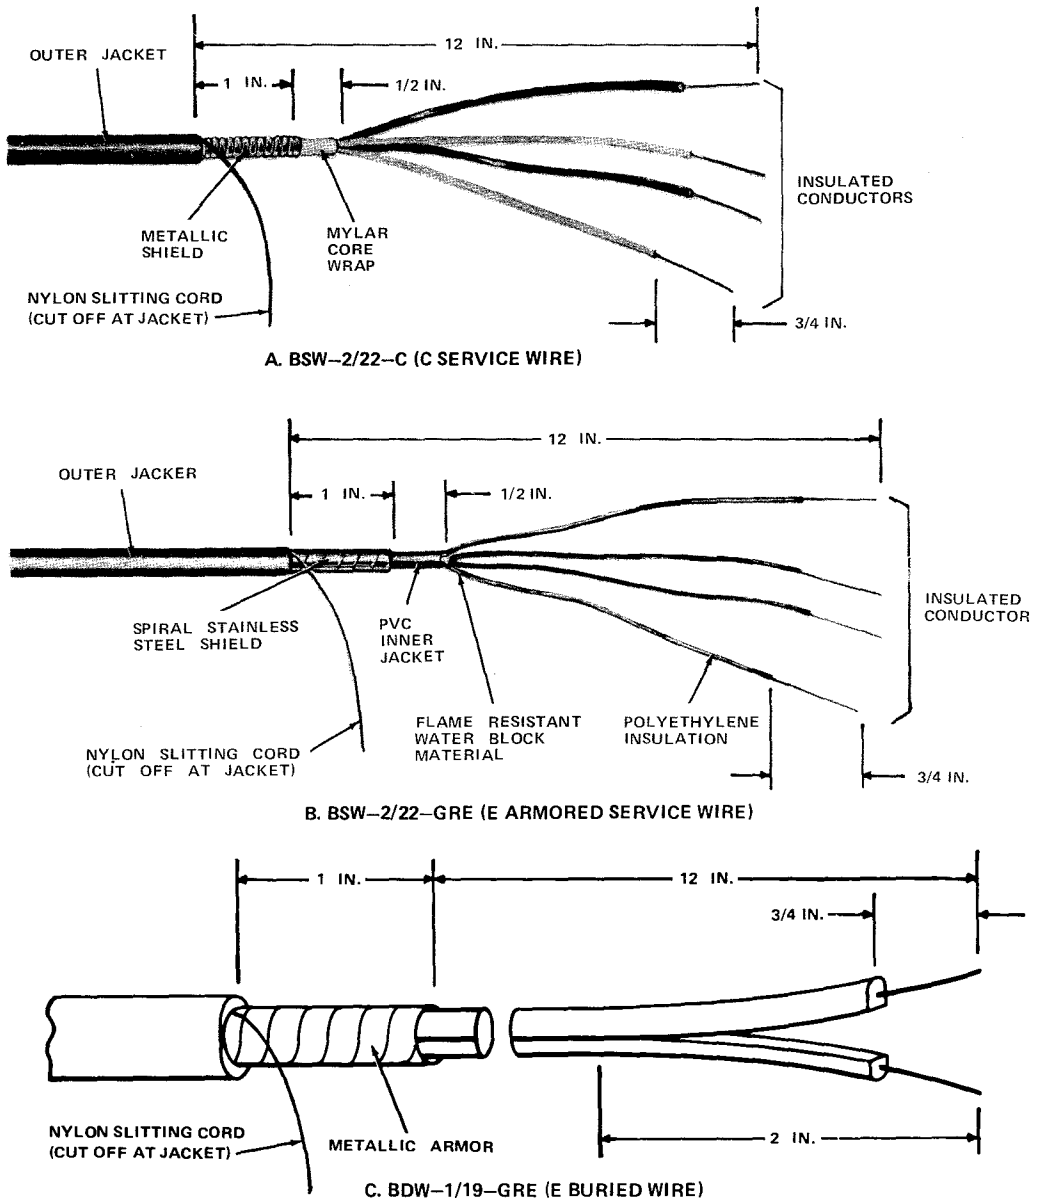

Fig. 36—Prepared Service Wire for RC4/72
6.11 To terminate service wire in the RC4/72 closure, prepare the service wire as shown in Fig. 36.